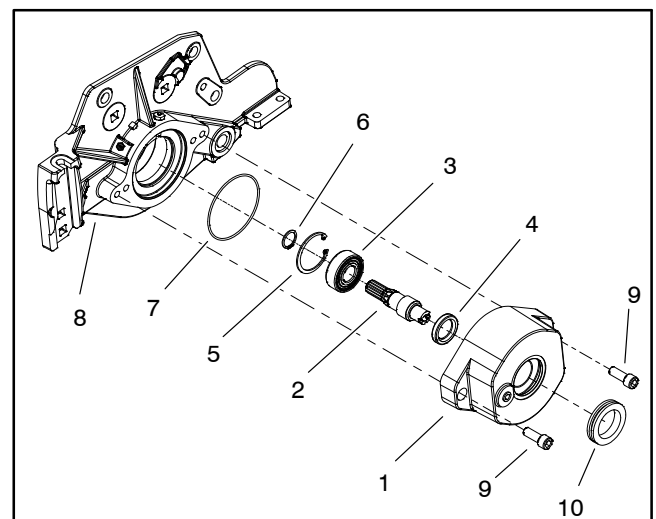

Figure 57
3. If drive bearing housing was disassembled, install new components noting proper orientation as shown in Figures 57 and 58.
A. Install bearing on shaft by pressing equally on the inner and outer bearing races. Install the bearing so that the bearing seal is closest to the shoulder on the shaft. Install snap ring (Fig. 57, item 6) onto shaft to retain bearing.
D. Carefully slide shaft and bearing fully into housing bore taking care to not damage the grease seal. Install retaining ring (Fig. 57, item 5) to secure bearing in housing.